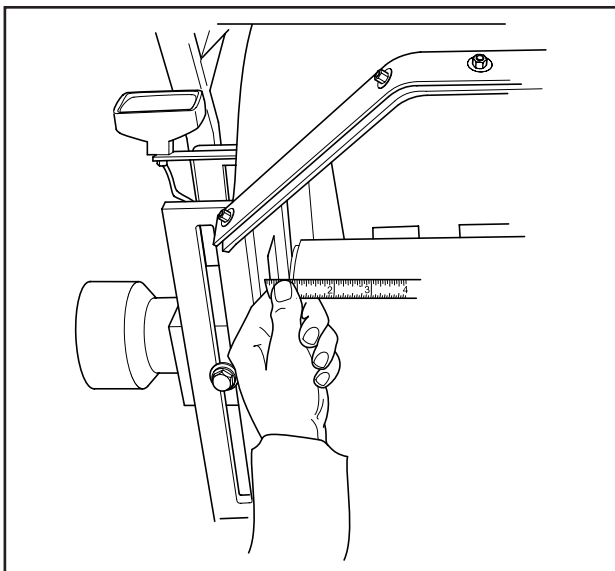

FIGURE 4-9. CENTERING MEASUREMENT
1. Measure the distance from both sides of the belt to the frame (see Figure 4-9).
3. Loosen cap screw (24) on both the top and bottom of the drive assembly.
4. Loosen the jam nut (7) and adjust position of drive by adjusting screw (12).